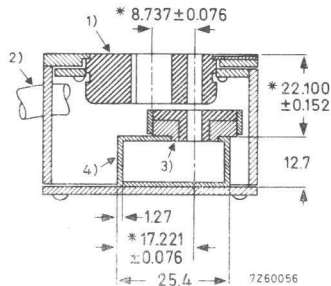
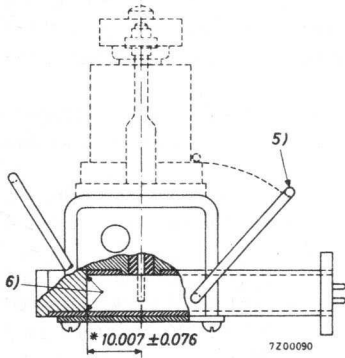

Fig. 1 Cross section of the mount (coupler)
Fig. 2 Side-view of the mount
For good broadband performance the tube should be inserted in a suitable mount. The mount recommended is shown in Fig. 1. It consists of a section of 3 cm waveguide (RG-52/U; outside dimensions 25.4 x 12.7), shortcircuited at one side, into which the aerial of the tube penetrates. The position of the aerial with respect to the waveguide is shown in fig. 2.
* See under Fig. 1